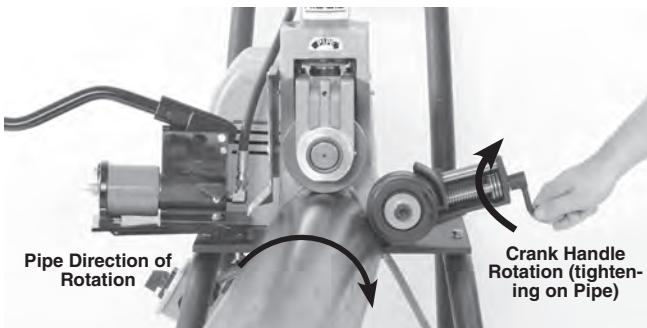

Figure 14 – Offsetting the Pipe $\frac{1}{2}^{\circ}$, (Exaggerated)
3. Rotate the stabilizer crank handle to bring the roller in contact with the pipe. Rotate the crank handle an additional one (1) turn to preload the roller against the pipe (*Figure 14*). Do not reach across the pipe to adjust the stabilizer.